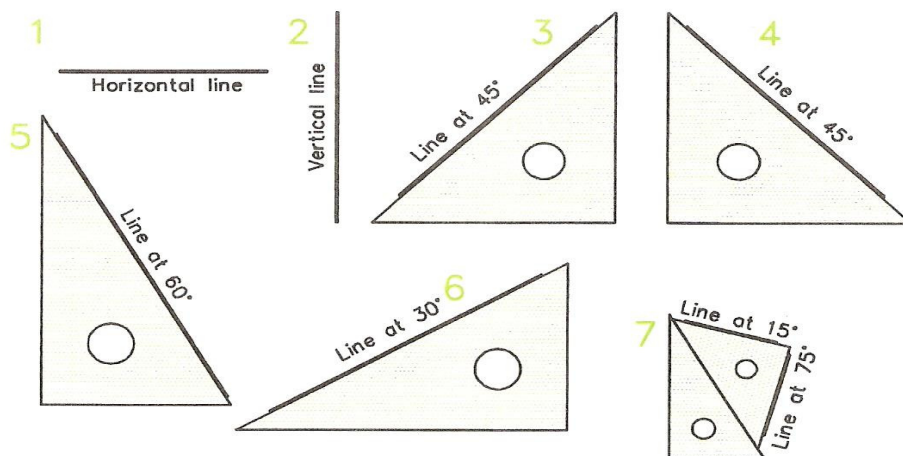

Figure 1 - Drawing Lines
1. Clip, or tape a piece of A4 drawing paper on to your drawing board. Check that the top edge of the paper lines up with the edge of your Tee square. Draw a border line 10 mm in from the paper edges with the Tee square and a set square. Where the words A4 paper appear in Figure 1, draw in your name as carefully and accurately as possible in 6 mm high letters, working freehand with your HB pencil. It is best if your name is in capital letters. Add the title - Drawing lines - also in capital letters. To assist accuracy in lettering draw two faint guide lines with the Tee square, 6 mm apart between which the lettering can be drawn. The guide lines allow the lettering to be the required 6 mm high.
2. With your Tee square and set squares draw lines as shown in Figure 1. The lines can be any length.